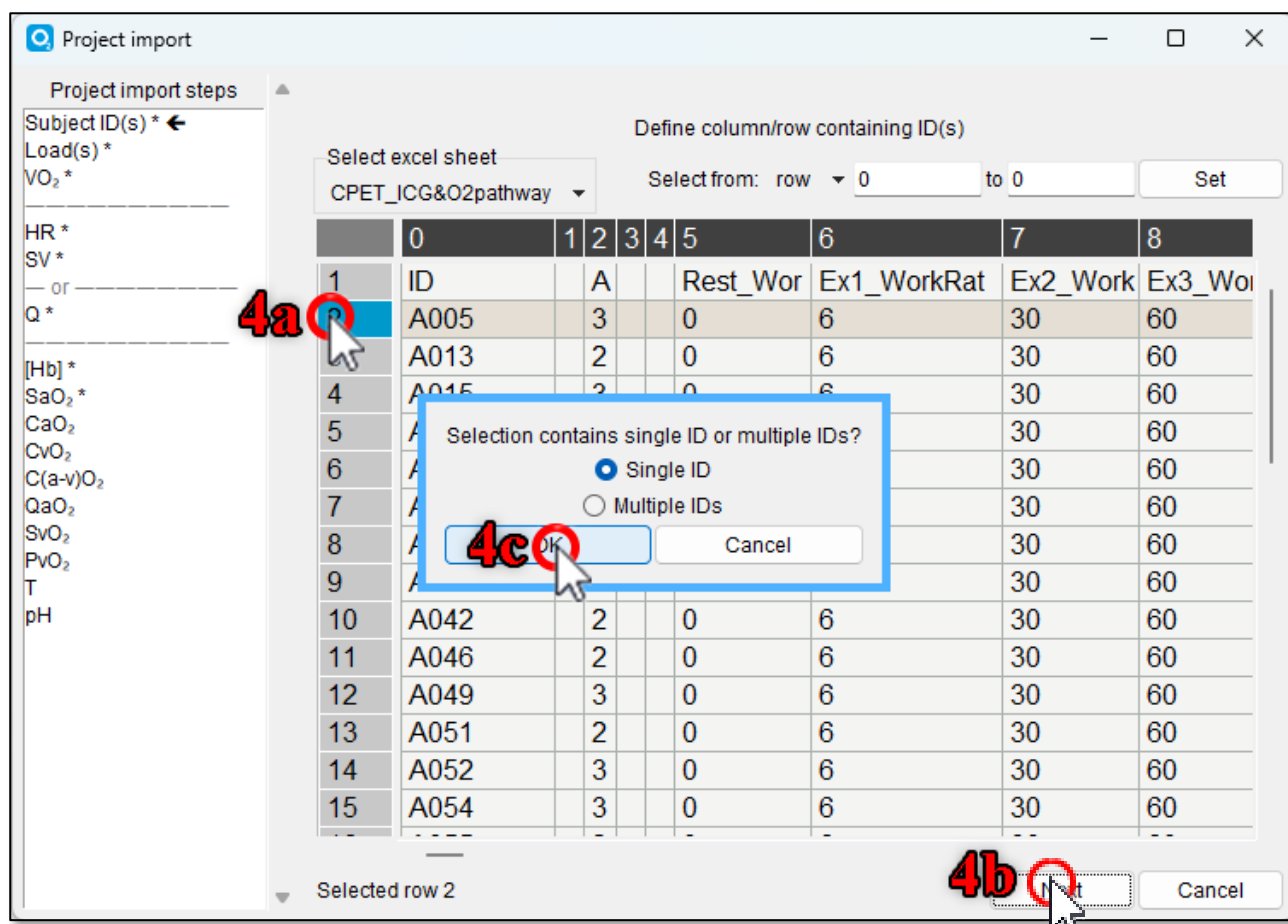

Figure 40
4. Data import wizard is started (Figure 40).